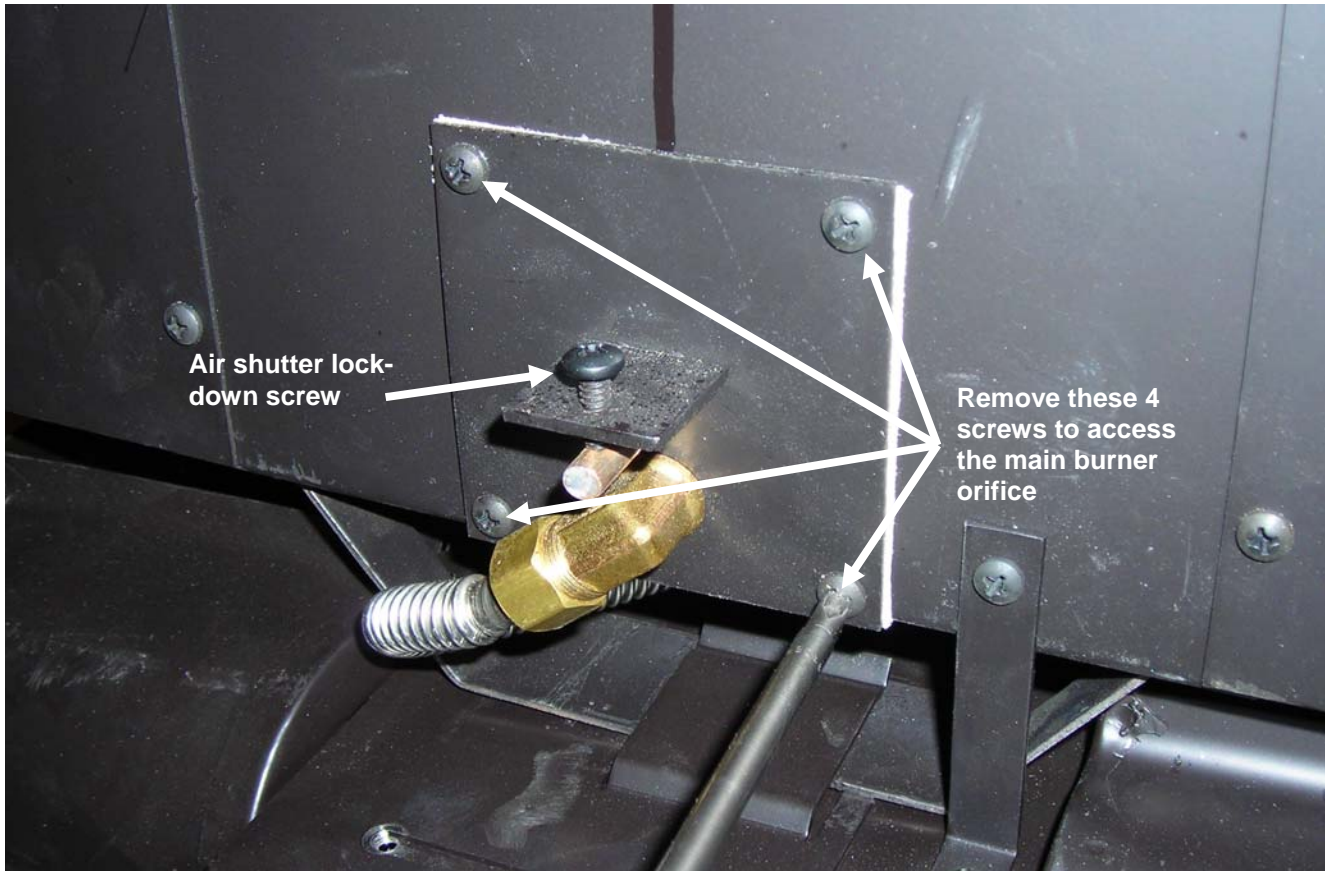

Figure 1
2. From behind the stove loosen (but do not remove) the screw that locks the air shutter in place. Locate and remove the (4) 8-32 screws that mount the orifice plate to the firebox body. See Figure 1 below.